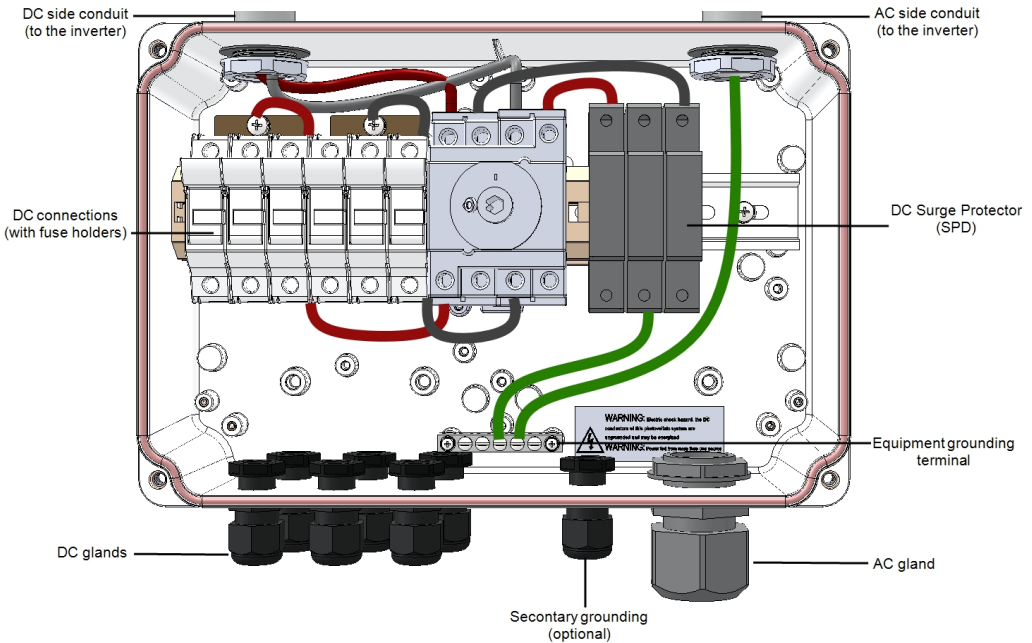

Figure 31: Inside the DC Safety Unit with fuses
6. Open the AC cable gland and insert the cable through the gland (see *Figure 31*).